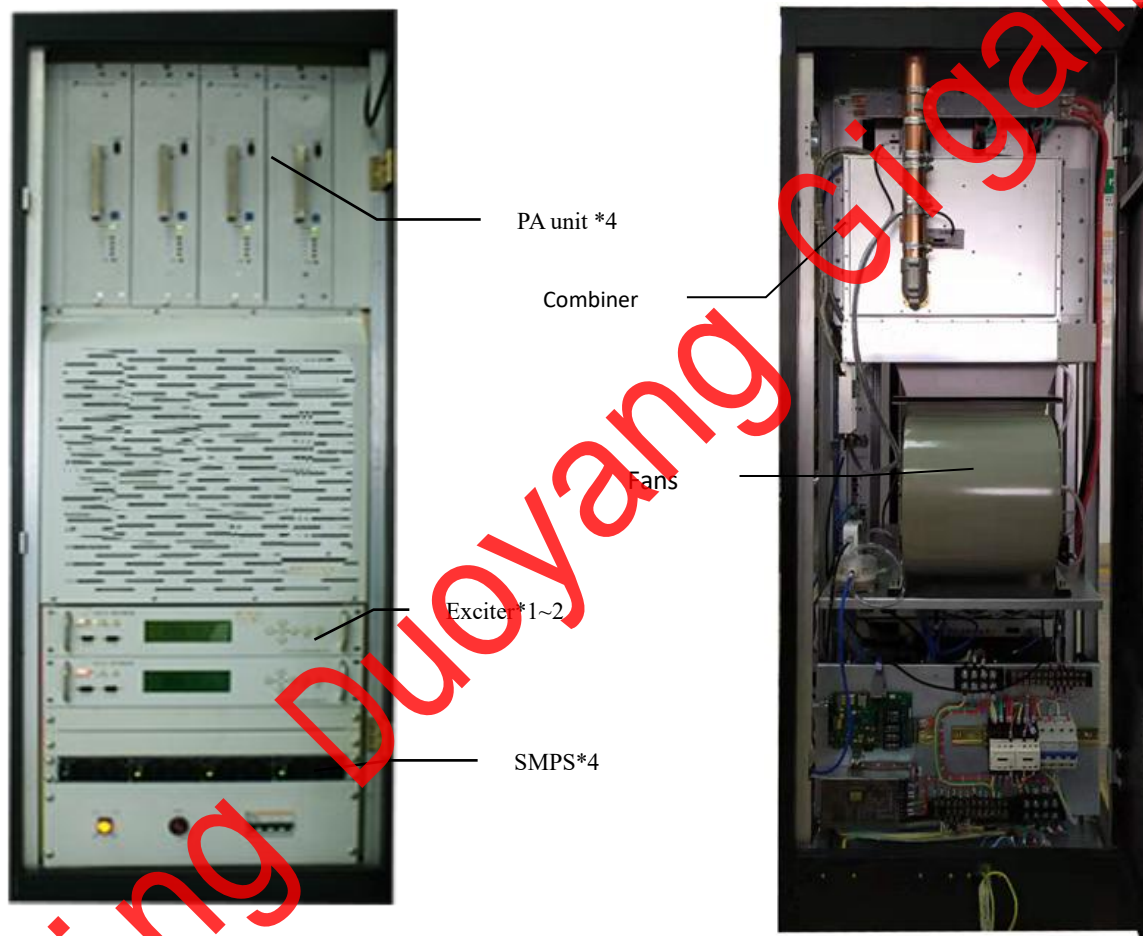

Fig.1 Front and rear view of the cabinet
2kw digital TV transmitter is mainly consisting of seven parts, i.e., exciter, amplification & control unit (ACU), power amplifier (PA) unit, central control unit (CCU), power supply control unit (PSCU), switching mode power supply (SMPS), passive components (divider, combiner, filter, directional coupler, etc.) and cooling system. Its appearance and internal structure are shown in Figure 1.